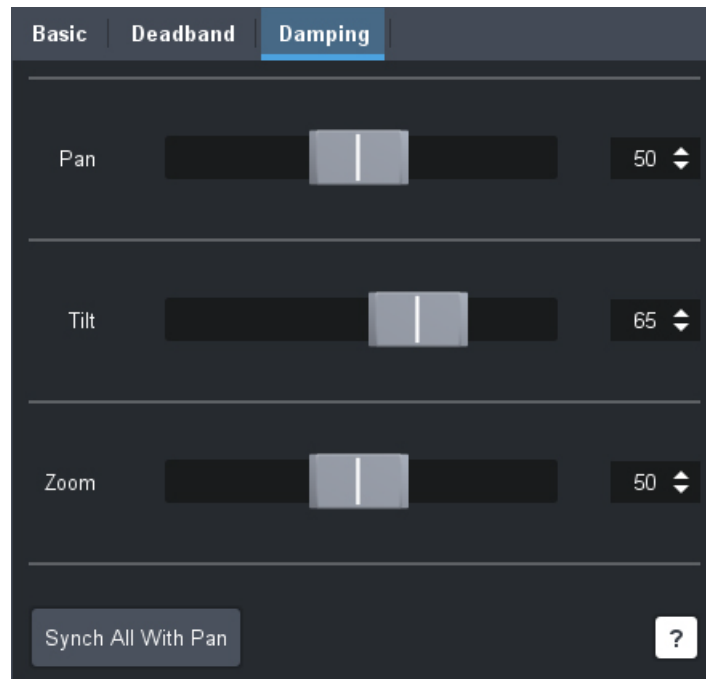

Figure 66 - Adjusting Damping Settings
1. In the **Options** area, on the **Damping** tab (Figure 66), use the **Pan** slider or the number box beside it to adjust the damping value for the **Pan** axis.